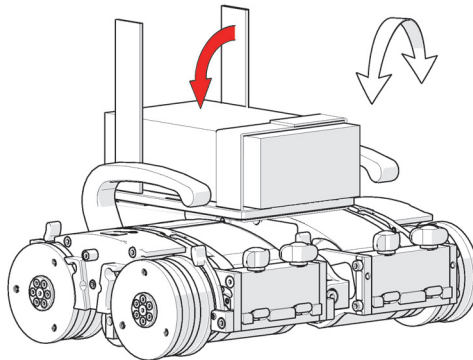

Figure 2-136 Hook and loop straps to hold item in place
3. Pull the hook and loop straps tight around the item on the backpack (see Figure 2-136 on page 150).